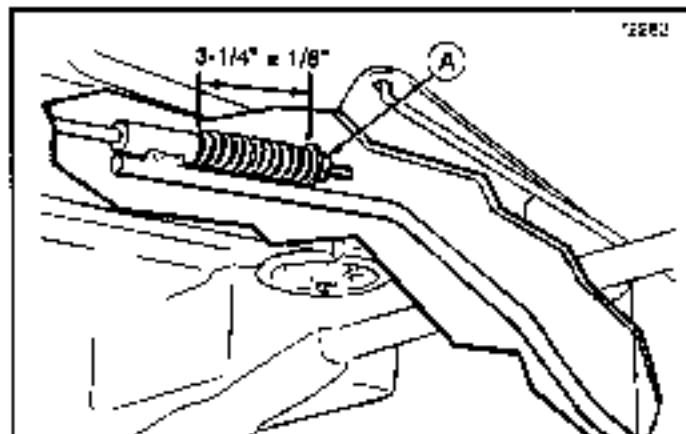

Figure 28. Brake Adjustment - Gear Models
2. See figure 28. The spring should be compressed to 3-1/4". Turn the adjustment nut (A) as necessary to achieve correct spring length.